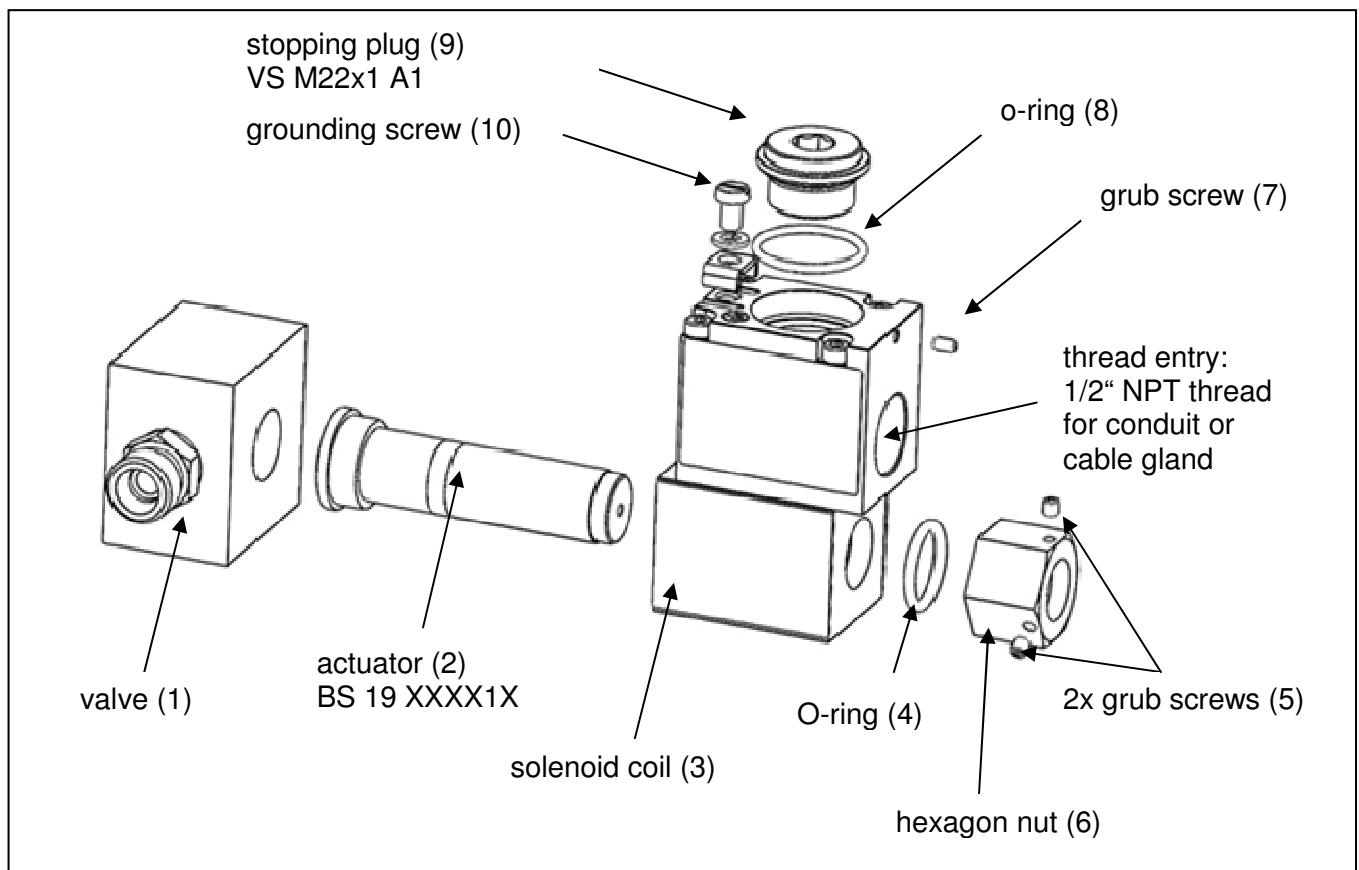
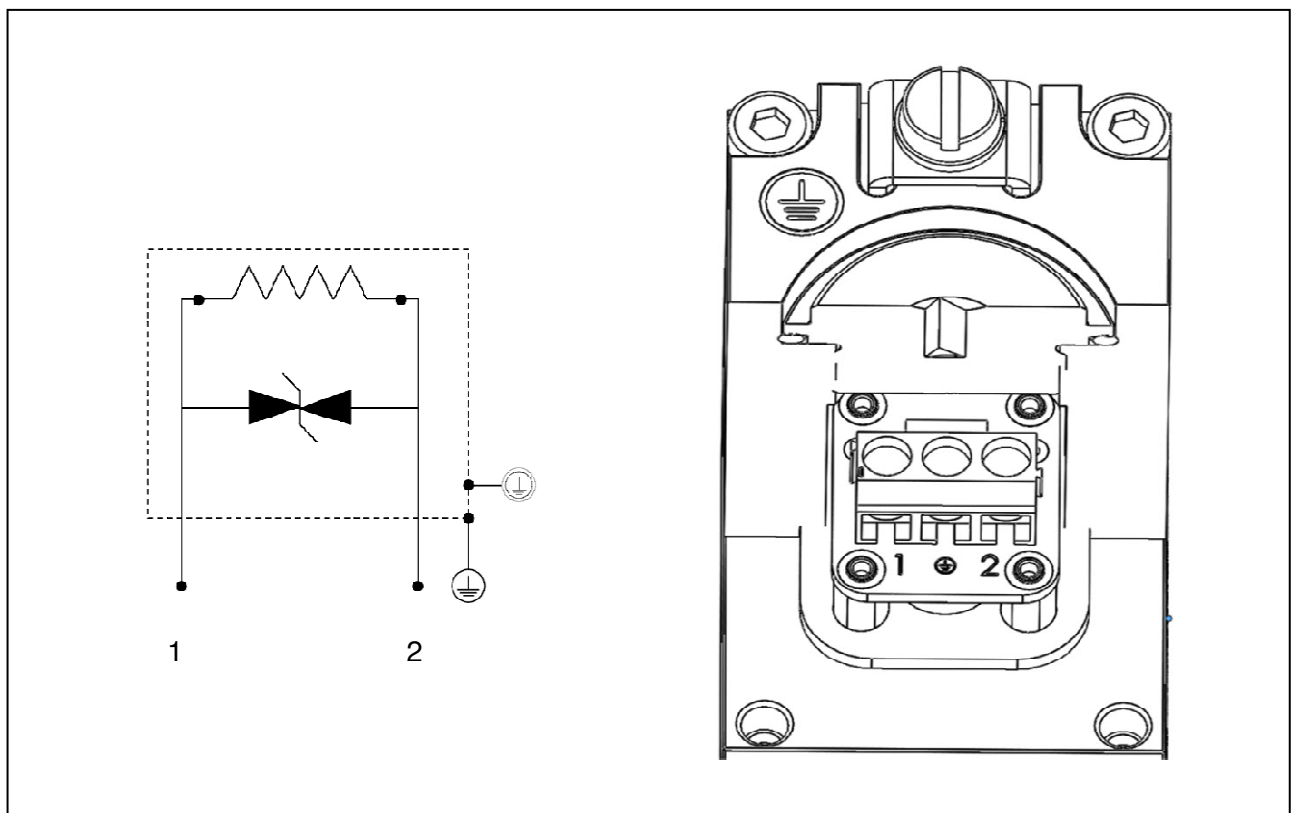

Fig 2: Assembly
Fig 3: electrical connection
See fig 2 for the order of the works when fitting the solenoid coil (3) to the actuator (2). Ensure you observe the tightening torques given in table 2.
Push the solenoid coil (3) over the actuator (2) in the order shown in fig 2 and fit the o-ring (4) and hexagon nut (6). Firmly tighten the hexagon nut (6) until it is no longer possible for the actuator to twist as a result of the expected vibrations. Secure the hexagon nut against working loose using the supplied grub screws (5). Please see table 2 for tightening torques.
- ☞ To open the solenoid coil (fig. 2 assembly), loosen the grub screw (7) and stopping plug (9) using the tools specified in table 2. Ensure that the surrounding surfaces are dry.
- ☞ Remove the stopping plug (9). When doing so, ensure that neither the thread nor the seal become damaged or soiled.
- ☞ Connect the electrical supply to the terminal that is now accessible, in accordance with the circuit diagram (fig 3). See table 3 for permitted wire gauge and required tightening torque (tab. 2).